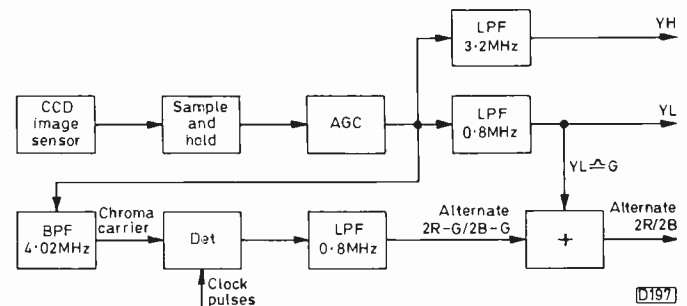

Fig. 7: Filtering system used to separate the luminance and colour components of the complex output signal produced by the image sensor.
As with the Saticon tube, the output obtained from the image sensor consists of a luminance signal plus a high-frequency carrier containing the chroma information. The filtering shown in Fig. 7 provides separate full-bandwidth luminance (YH), narrow-bandwidth luminance (YL) and, from the bandpass filter, the chroma carrier. In the chroma signal path detection is followed by a low-pass filter whose output consists of  $2R - G$  and  $2B - G$ . By